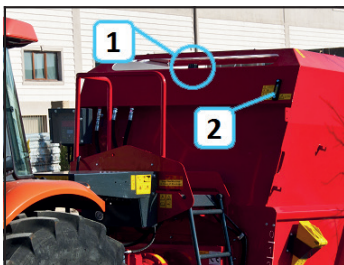

Figure 23- The Oil bath
Oil bath: Daily check oil level in oil bath. The oil level must always be visible in sight gauge. If needed, fill the oil bath with HYDRAULIC OIL ISO 32-46 from the place which is shown in figure 23 with number one (1) to centre of sight gauge, number two (2).